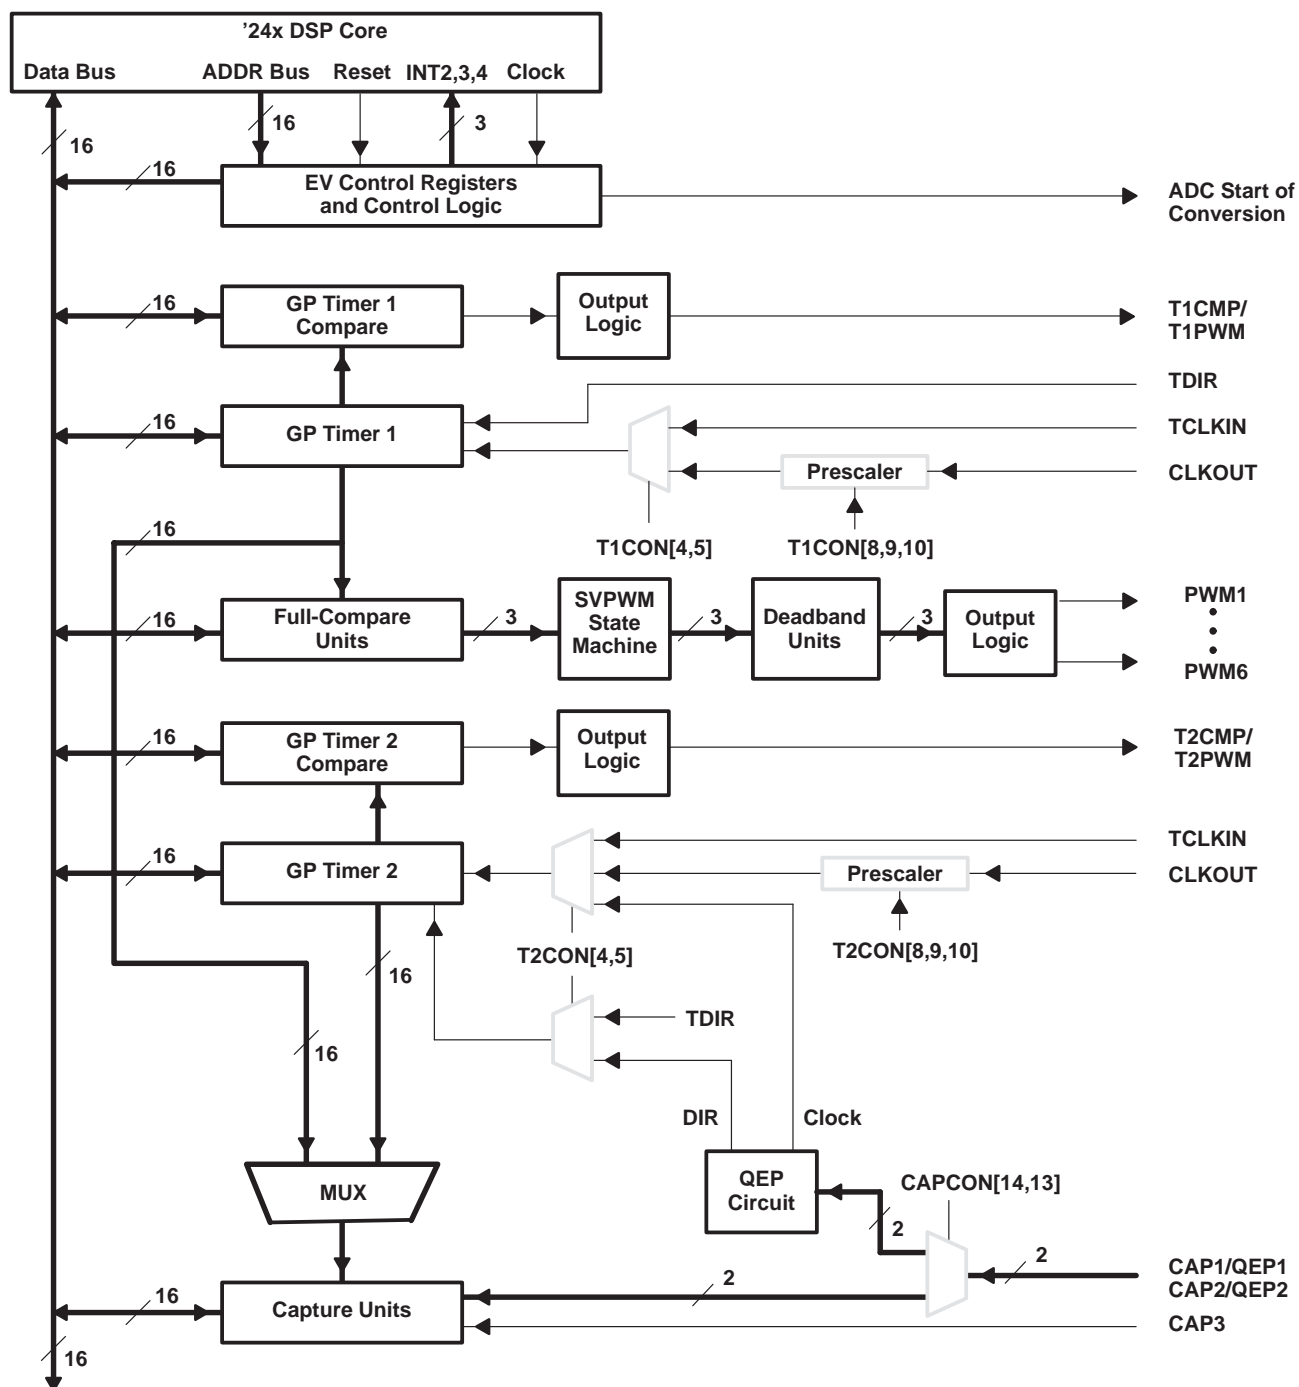

Figure 9. Event-Manager Block Diagram
The event-manager module includes general-purpose (GP) timers, full compare/PWM units, capture units, and quadrature-encoder pulse (QEP) circuits. Figure 9 shows the functions of the event manager.